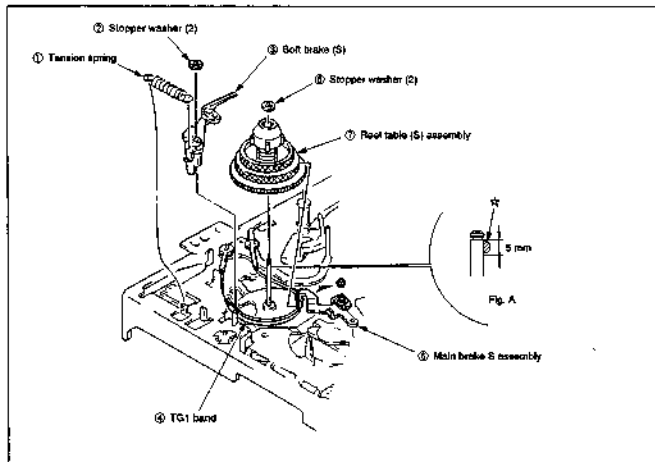

Fig. 3-23
3-21. REEL TABLE (S) ASSEMBLY (Fig. 3-23)
- 1) Remove tension spring ① from the chassis side.
- 2) Remove stopper washer (2) ② to pull out soft brake (S) ③.
- 3) Move TGI band ④ over the reel table.
- 4) Remove stopper washer (2) ⑤.
- 5) While pressing main brake S assembly ⑥, pull out reel table (S) assembly ⑦.